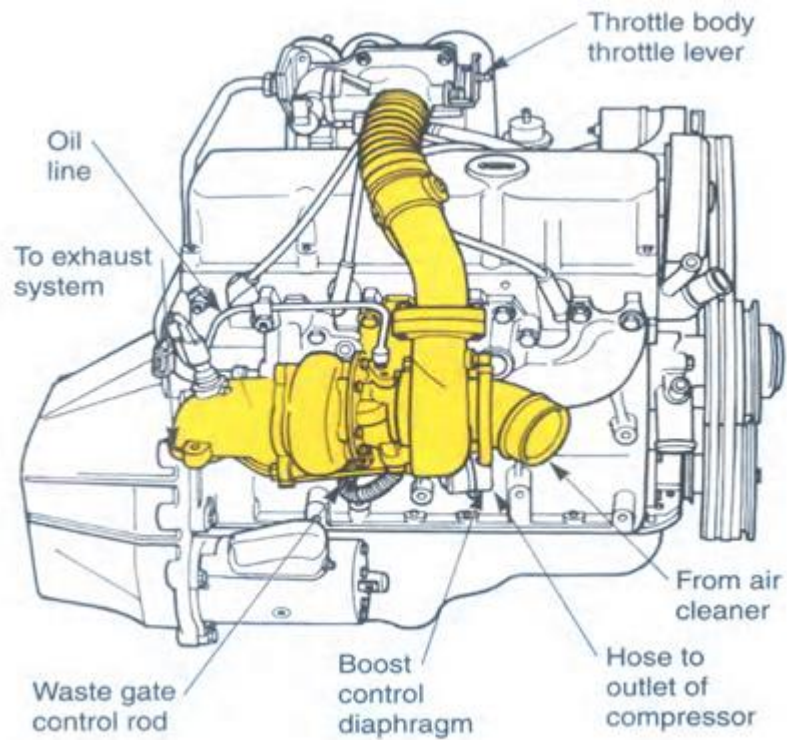

Fig. 19
- Check connection of all vacuum lines to the waste gate and oil lines to the turbocharger, Figure 19 next page.